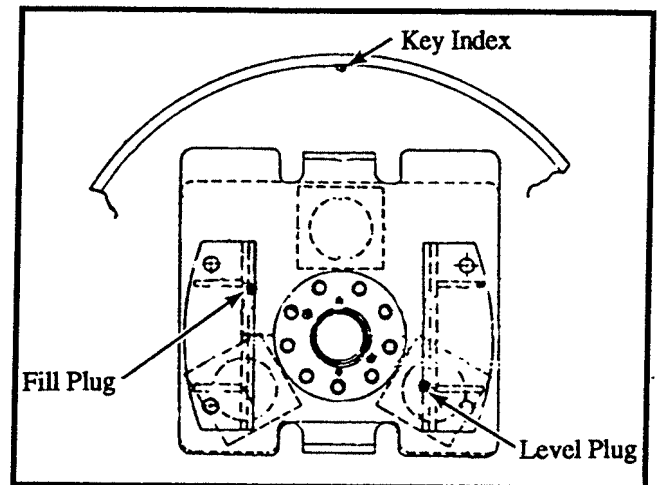

Figure 13-4. Eccentric Fill Plug Location
5. When oil has completely drained, position the drum with the key index in the 12 o'clock position. This places the fill plug at the top while the level plug is opposite and slightly below centerline. Refer to Figure 13-4.